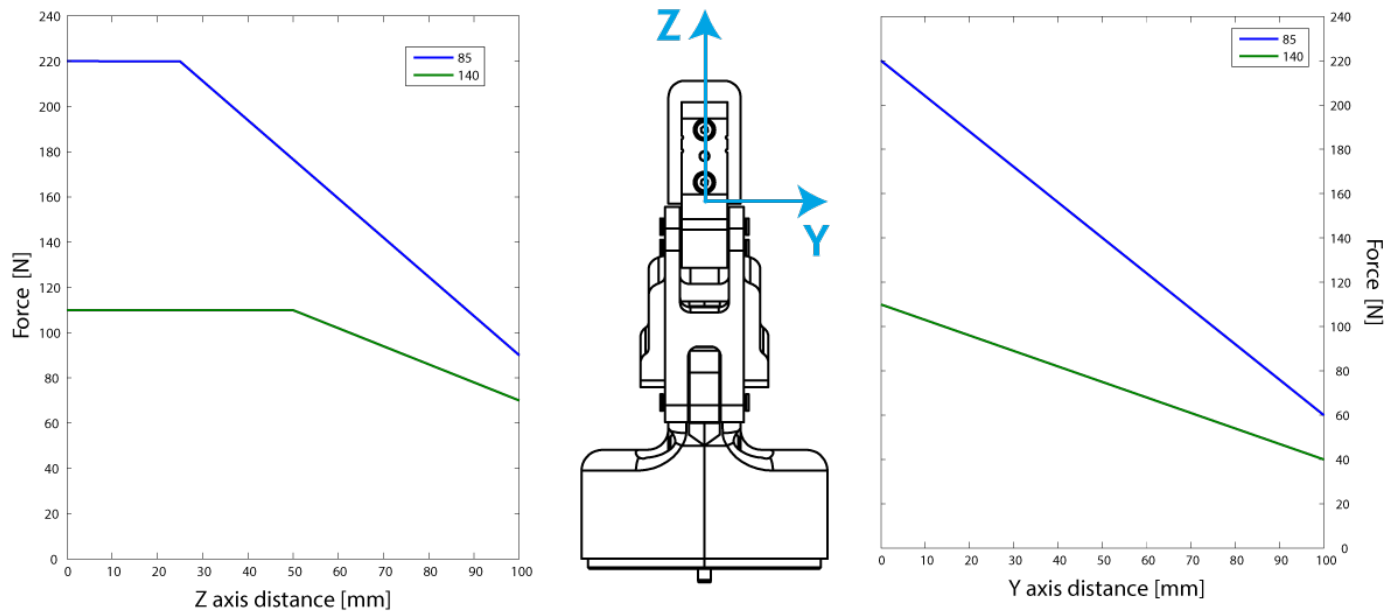

Fig. 6-18: Grasp force in the Y and Z axis for the 2-Finger 85 and 2-Finger 140.
- Fingertip must not exceed 100 mm in width from the fingertip's base (refer to Y axis from figure 6-18).
The user of the Gripper must always ensure that the result of the forces against the finger is always lower than the maximum holding force as seen in figure 6-18.
* Moments in x and y are calculated from the base of the fingertips as shown in figure 6-18.